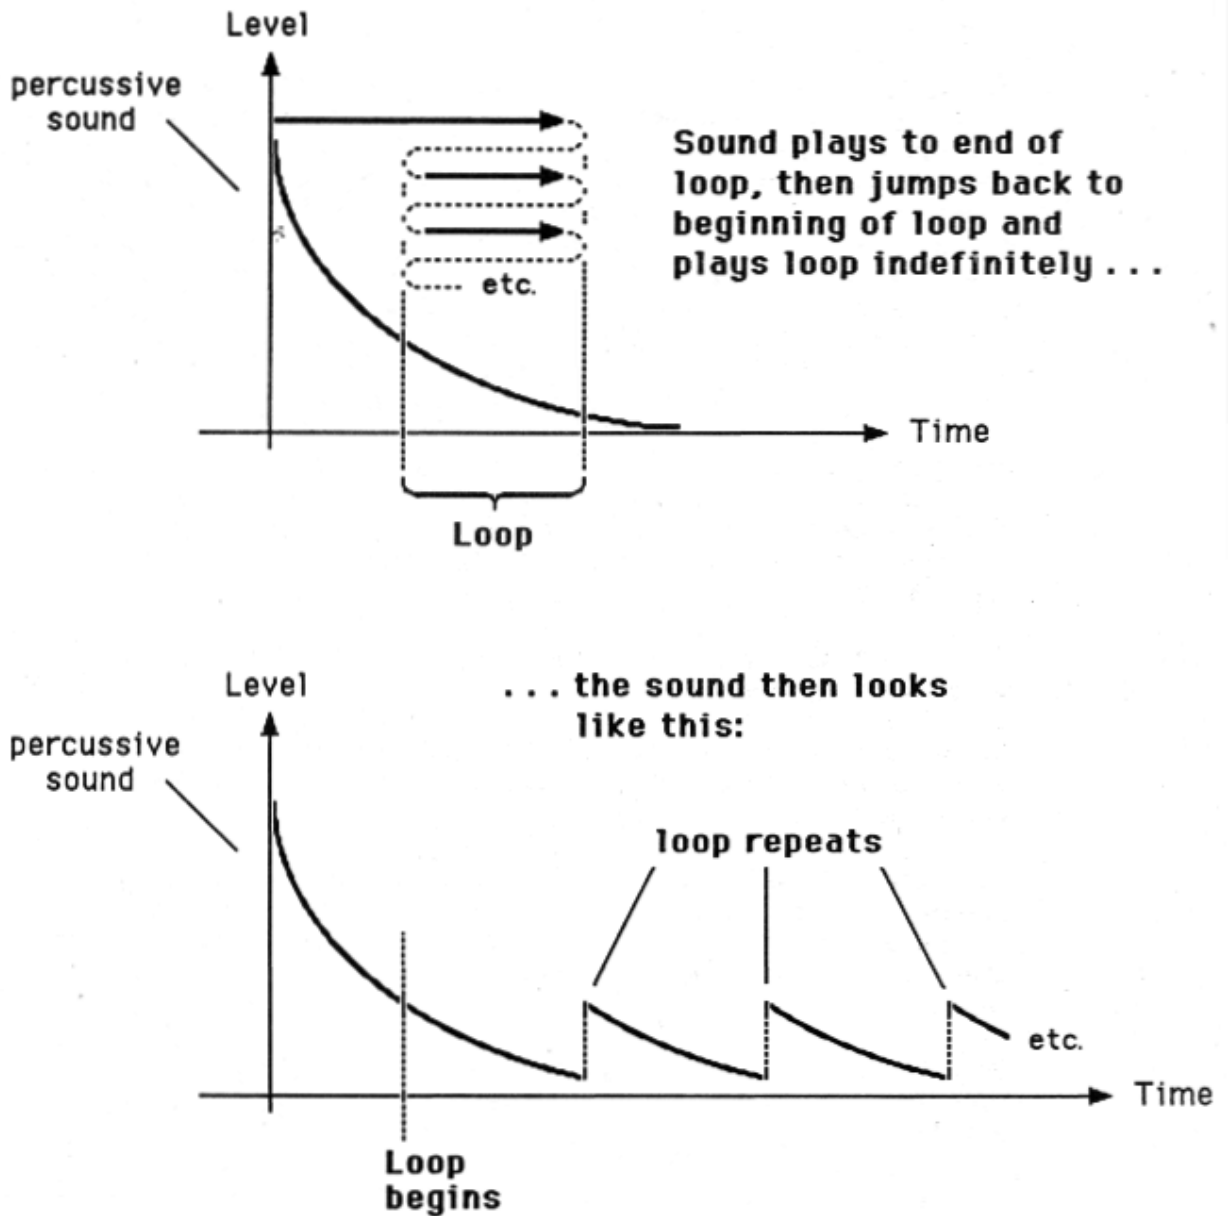

Fig. 4-1
6. Looping can be set at the same time as truncation, or you can loop a previously truncated sample. Looping marks off a section (called a loop) of a User Sound. The display indicates the Loop Length (L=), whose end point is the end of the sample. With a looped User Sound, the sound plays normally until it reaches the end of the loop. It then jumps back to the Loop start point and re-plays through the loop. Upon reaching the loop end, it again re-plays the loop. Fig. 4-1 indicates a typical looping action. Looping provides "infinite sustain" effects, extends short samples, and if the loop is rhythmically related to a composition, produces interesting rhythmic effects.